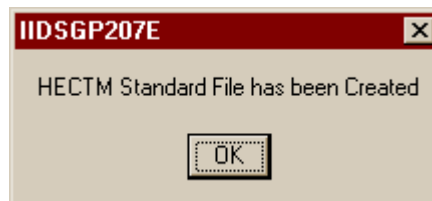

Figure 57. HECTM Standard File Created Dialog
6. The GBMC program will generate a standard file format compatible with the Pratt & Whitney HECTM™ application. A dialog box will be displayed indicating the standard file has been created (refer to Figure 57).